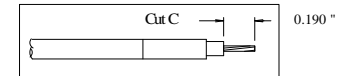

Figure 3
- Install Center Contact onto the cable Center Conductor, until the Contact is fully seated against the Dielectric. Solder or crimp the Center Contact to the Center Conductor. See fig 3. Refer to above chart for Positioner and Dial Setting. Inspection hole should show Center Conductor / Solder (if soldered).